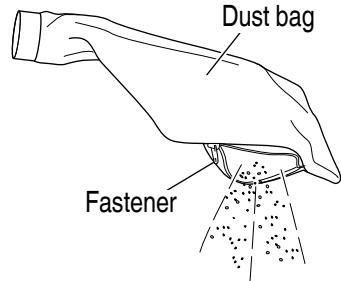

Fig. 17
1. Empting and cleaning the dust bag (**Fig. 17**)